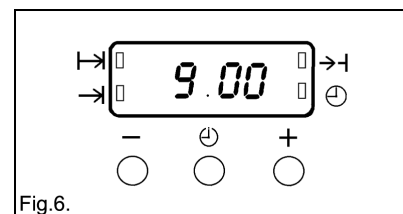

Fig.6.
- i) Ensure the electricity supply is switched ON and that the correct time of day is displayed, e.g. 9 a.m. as Fig. 6.